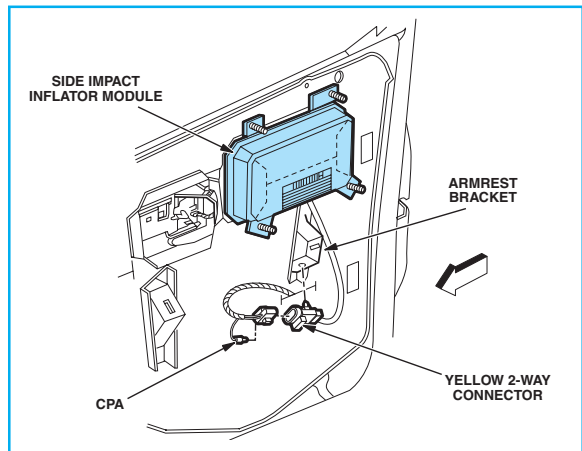

Figure 7
**A** After the air bag has been deployed, you may use any rescue procedure to cut the front door or seat. If the bag did not deploy, you may pry or cut in the forward half of the front door if the side impact bag system is mounted in the door. If the system is not a door-mounted system, any part of the door may be cut. On vehicles equipped with door-mounted side impact bags, there are no issues with cutting the door wires where they enter the door at the hinge, because the firing loop for the side impact air bag is contained in the rear of the door between the side impact sensing module and the air bag module. Figure 7 shows the air bag module location and the routing of the firing loop wiring. Do not cut or drill in the upper rearward quadrant of the front door where the side impact air bag module is packaged. When possible, disconnect the battery as described previously before cutting in the rear half of the door.